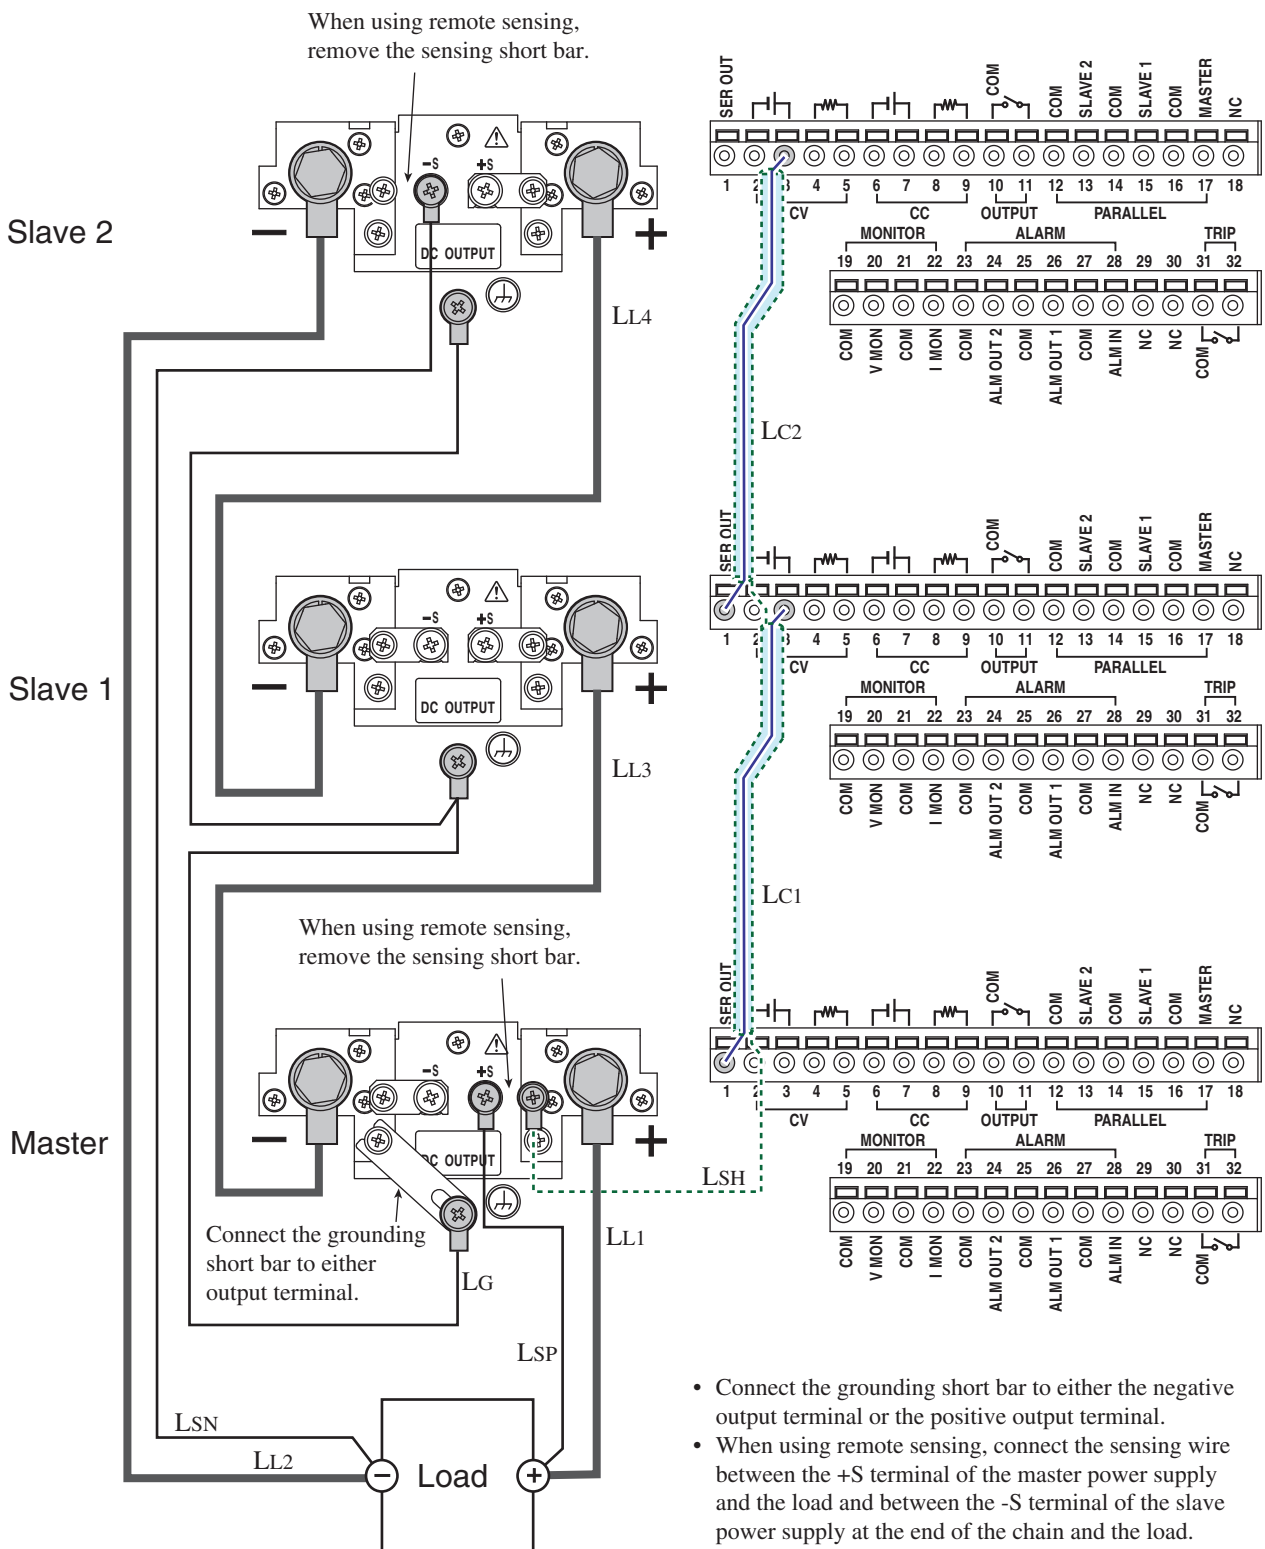

Fig. 4-18 Master-slave series operation connection
6. Connect the master and slave power supplies as shown in Fig. 4-18.